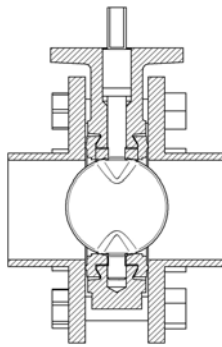
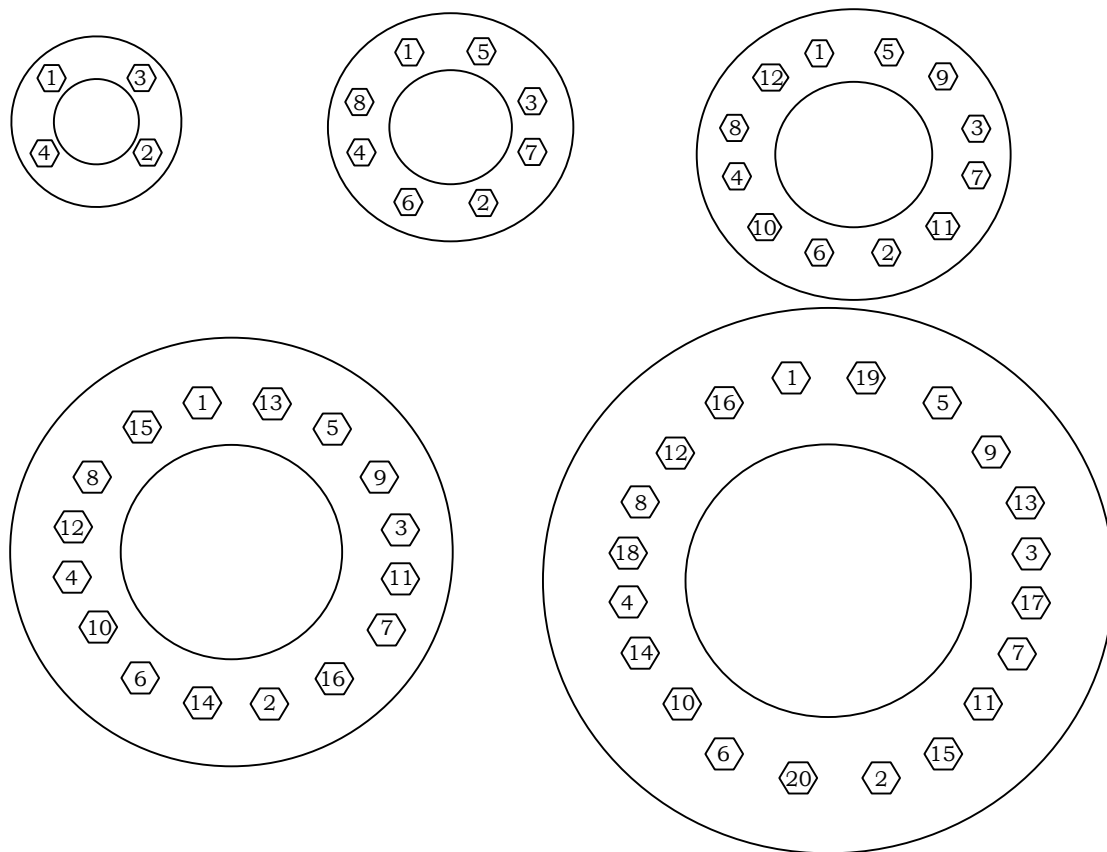

FIGURE 3. VALVE IN FULL OPEN POSITION
FIGURE 4. FLANGE BOLT TIGHTENING SEQUENCE
- Step 7. Slowly open the valve to the full open position (Figure 3) and back to the partially open position ensuring that the disc moves freely without any obstruction. If no obstruction is encountered, return the valve to the full open position and hand-tighten all flange bolts using the bolt tightening sequence shown in Figure 4.
- Step 8. Rotate the disc from the fully open position to the fully closed position and make sure that the valve is properly centered and the disc edge does not contact the pipe ID. Return the disc to the full open position and tighten the flange bolts following the bolt tightening sequence shown in Figure 4. However, do not fully tighten each flange bolt all at once. Tighten each bolt incrementally following the sequence in Figure 4 several times until the flange bolts are tight. After all flange bolts are fully tightened, cycle the valve from full open to full closed to ensure that there is proper disc clearance.